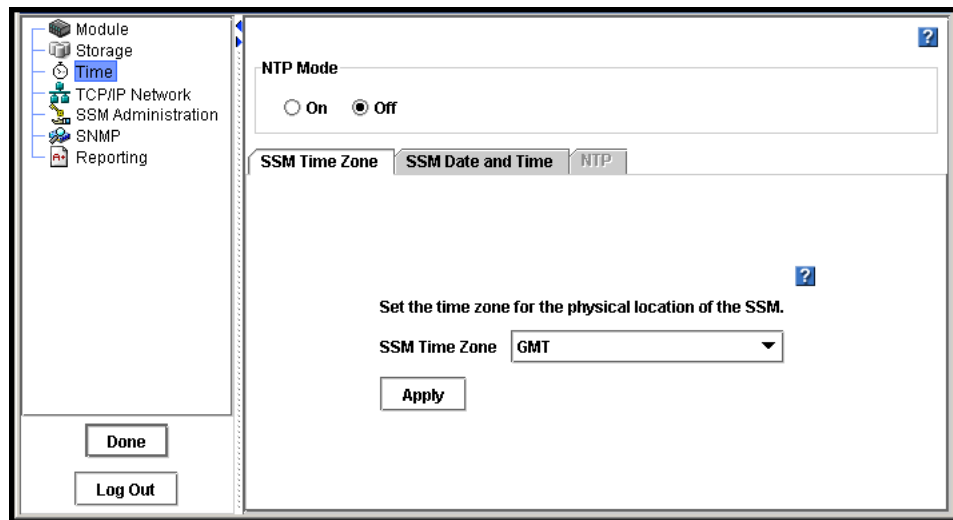

Figure 96. Setting the Time Zone
2. Select Time from the SSM configuration categories. The Time window opens, shown in Figure 96.